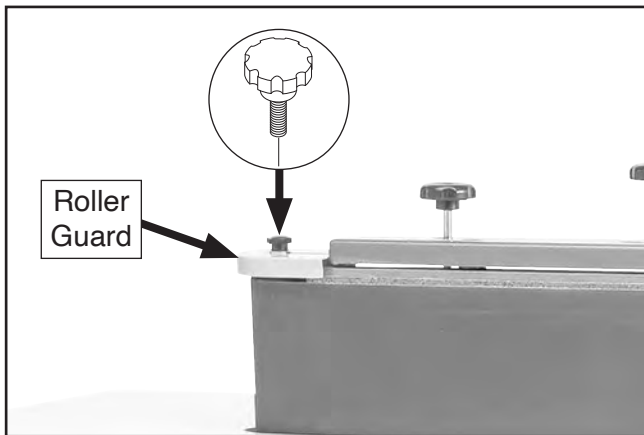

Figure 67. Location of roller guard and knob.
3. Loosen knob shown in **Figure 67** to remove roller guard.